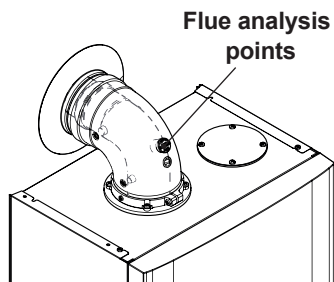

Fig. 10.14
It is compulsory to conduct a combustion analysis. Remove the plug as indicated in Fig. 10.14 and carry out combustion analysis.
- Check the combustion of the boiler using the outlets located on the flue tubes (Fig. 10.14) and compare the data measured with that following.